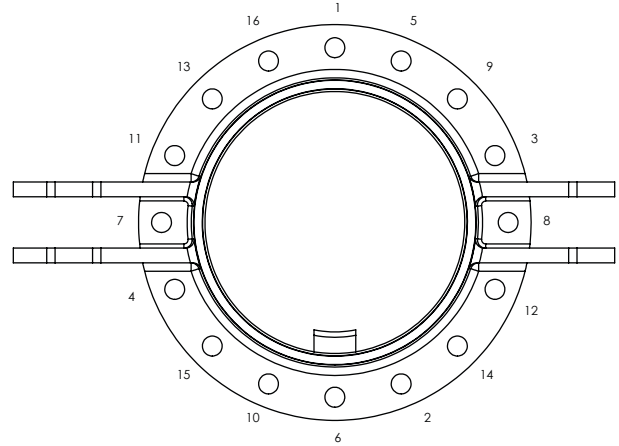

Figure 3. High Flow Hatch Torque Sequence
2. Insert the 16 bolts from the bottom up by reaching inside the tank, through the hatch opening and attach each nut to the bolt from the outside. Tighten all nuts in a star pattern (refer to Figure 3) and ensure the hatch is fastened securely. Refer to Tables 2 and 3 for torque instructions.
3. For installation of the Model ES-665-HF hatch to a flanged pipe with an 8 in. API flange pattern, simply place the base gasket on the flanged pipe, line up bolt holes and place hatch on top of base gasket. Install nuts and bolts and tighten in a star pattern (refer to Figure 3). Ensure hatch is fastened securely. Refer to Tables 2 and 3 for torque instructions.